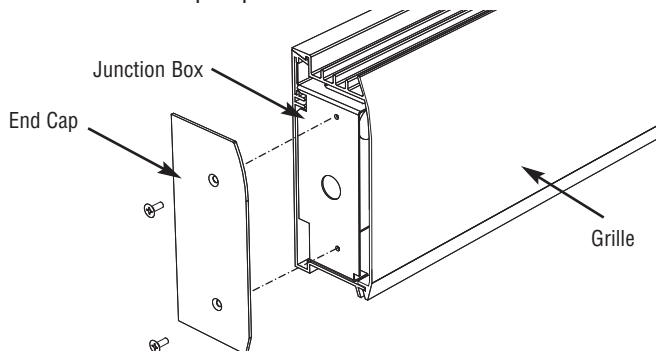

Figure 1a - End Cap to Junction Box (Slim Line Shown)
1. Push end cap into end of heater until it is flush (Figure 1a).